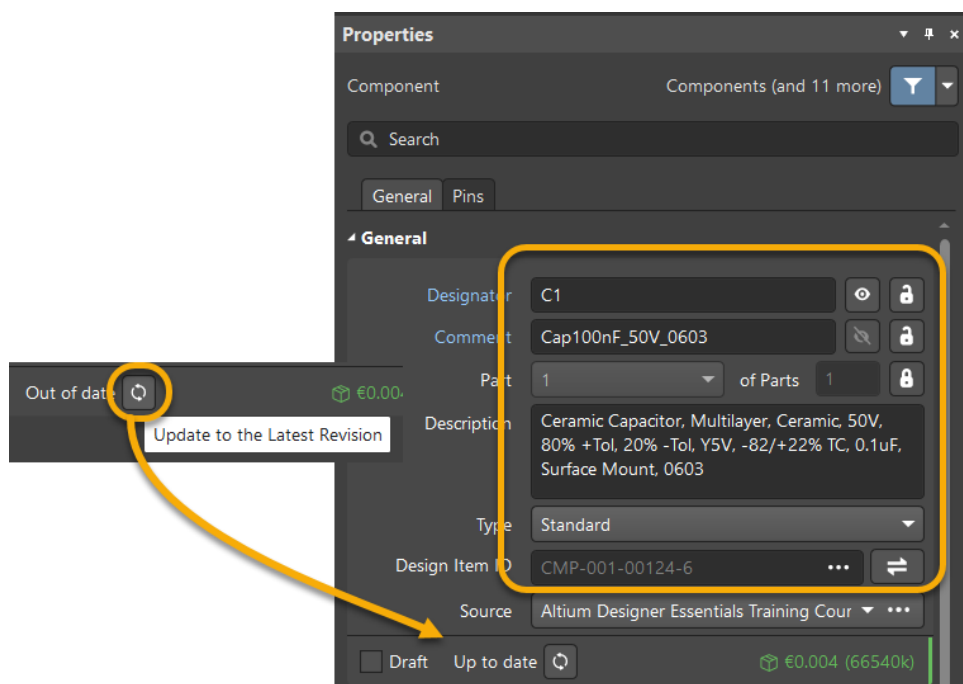

Figure 6. Now Component is Up to Date
27. Refreshing the component will pull the latest revision from the database and update the component, Figure 6.